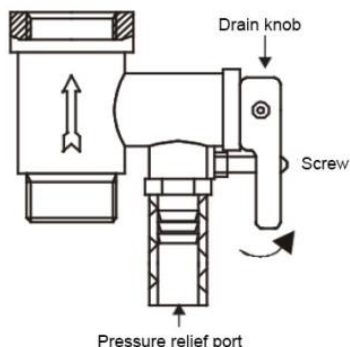

Fig 6
4. Screw the safety relief valve on the inlet nozzle, which is marked in blue and has a water flow direction arrow in such a way that the water flow coincides with the direction of the arrow on the valve body. Put the water drainage tube* (water may appear during heating) on the pressure relief port of the safety relief valve to allow water drainage into the sewer (see Fig. 6) (the tube must be directed downwards and must not be bent).
6. To drain the internal tank, use the safety relief valve: unscrew the screw of drain knob on the safety relief valve and move the drain knob to the up position — the hot water outlet tap must be open and the cold water inlet tap must be closed (see Fig. 6). Water will start flowing from the pressure relief port of the safety relief valve.